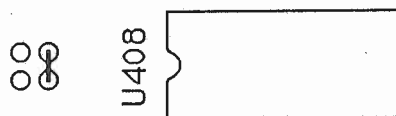

figure 9
15. On the Stretch Processor board, there are two little jumpers near U408. The right jumper must be connected if Stretch is connected to an earlier model DX. There must be no jumper in the left two feed-throughs. See **figure 9**.